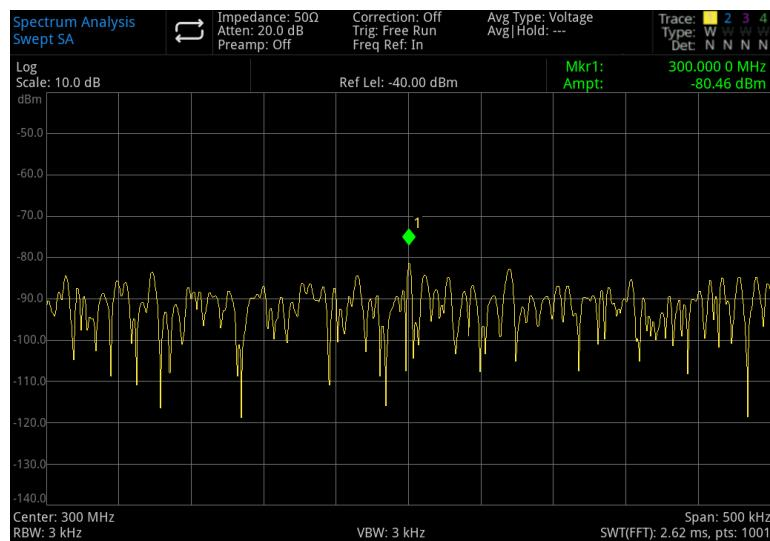

Figure 3-11 A Signal Close to Ground Noise
5. Decrease the sweep span to 500kHz (as shown in Figure 3-11) :